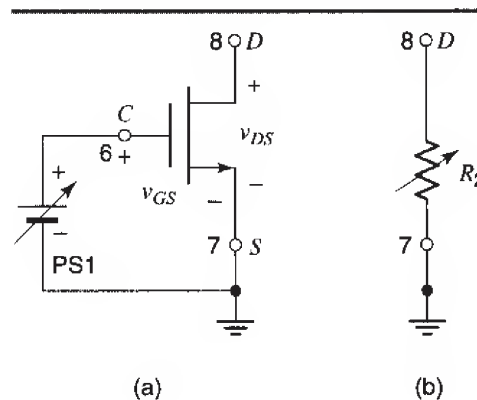
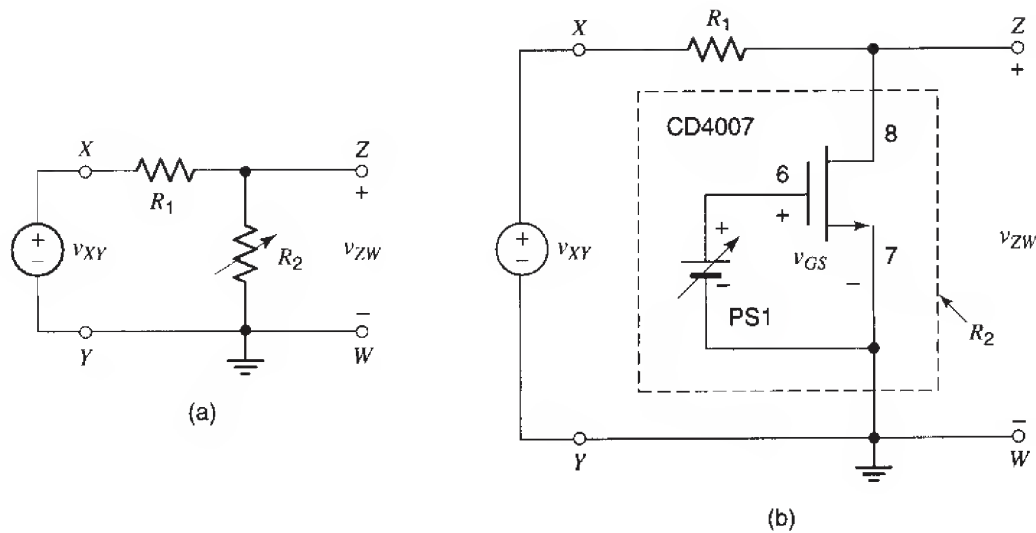

Fig. 4
Fig. 5
8. Form the circuit of Fig. 4(a), by *disconnecting* PS2 and the DMMs from the circuit of Fig. 2. Connect an ohmmeter between the drain and the source, and verify that the resistance across these two terminals can be varied by varying  $v_{GS}$ . Verify the values
From the results so far, it is evident that the circuit of Fig. 4(a) is a *voltage-controlled resistor*; that is, it is equivalent to Fig. 4(b), where the value of  $R_2$  depends on  $v_{GS}$ . The arrow through the resistor indicates that its resistance can be varied. (Keep in mind that this resistor is linear provided that the drain-source voltage is kept sufficiently small; otherwise, its current will not be proportional to the voltage across it.)
9. You can use the fact that the MOSFET can be used as a voltage-controlled resistor, to make a voltage-controlled potentiometer. Consider the voltage divider shown in Fig. 5(a).  $R_1$  is a conventional, fixed resistor, whereas  $R_2$  is a variable resistor. If a voltage  $v_{XY}$  is applied to the circuit as shown, the output voltage  $v_{ZW}$  will be
In the circuit of Fig. 5(a),  $R_2$  can be replaced by the MOSFET, as suggested by the equivalence of the circuits in Figs. 4(a) and 4(b). Thus, the circuit of Fig. 5(b) results (*do not build this circuit yet*). Now, one can vary the division ratio  $R_2/(R_1 + R_2)$  by varying  $R_2$  through  $v_{GS}$ .
10. Now build the circuit of Fig. 5(b). Keep in mind that the MOSFET behaves as a linear resistor *only* if the voltage between its drain and source is sufficiently small; thus, *avoid* large  $v_{ZW}$  values. Do *not* use an ohmmeter in this step. Verify that the voltage division ratio,  $v_{ZW}/v_{XY} = R_2/(R_1 + R_2)$ , can be varied in the range expected from step 9 by varying  $v_{GS}$ .
11. From the results obtained so far, you can see that if  $v_{GS}$  is sufficiently small, the MOSFET behaves as an open circuit between the drain and the source; thus, the drain-source path in Fig. 4 acts as an open switch in this case. Also, you can see that with  $v_{GS}$  large, the MOSFET presents a rather small resistance between the source and the drain (always assuming that the drain-source voltage is small). If that resistance were zero, the MOSFET would behave as a closed ideal switch in this case; since the resistance is not zero, we can say that it behaves as a closed nonideal switch (essentially, it behaves as a closed ideal switch with some resistance in series with it).